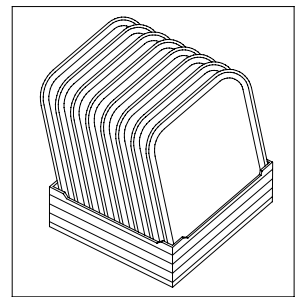

Fig.19
- Put trays in the baskets, making sure is in its separate rack (Fig.19).